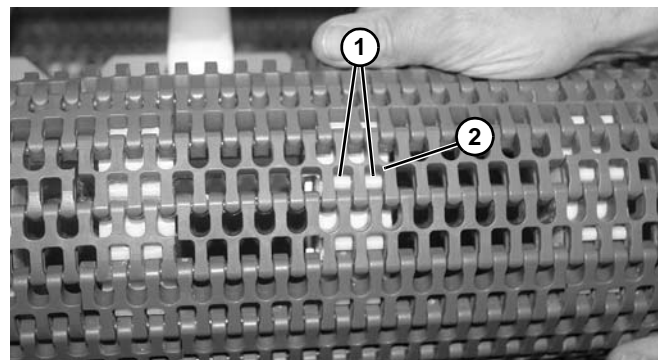

Figure 10
3. Make sure the sprocket teeth have engaged the belt with the teeth (Figure 10, item 1) mating with the rounded section (Figure 10, item 2) of the belt, as shown.